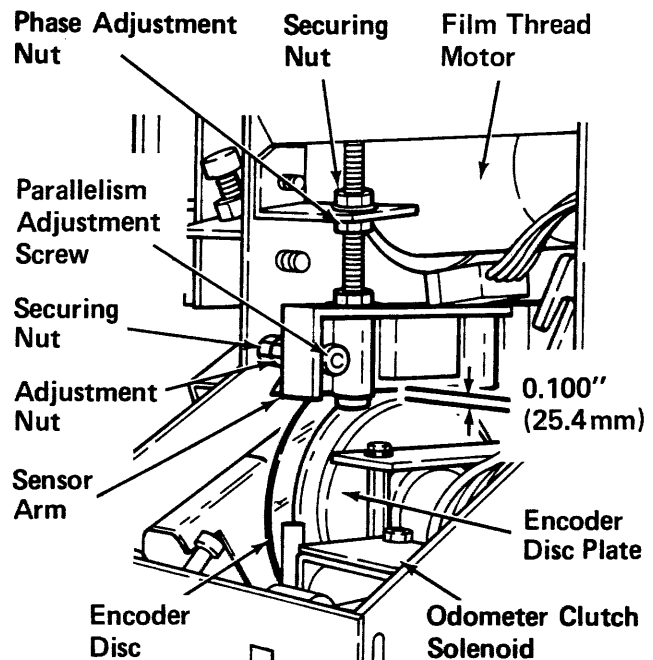
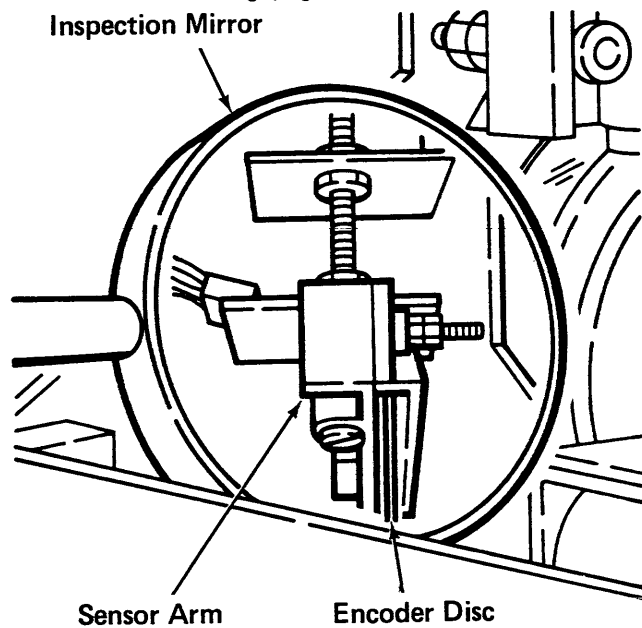
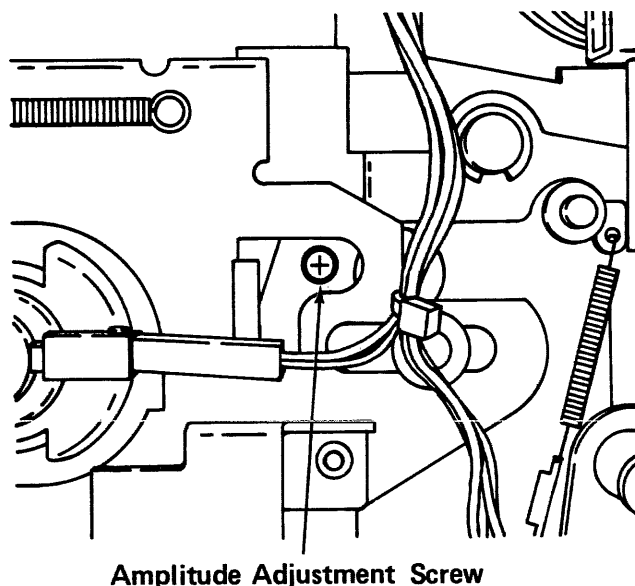
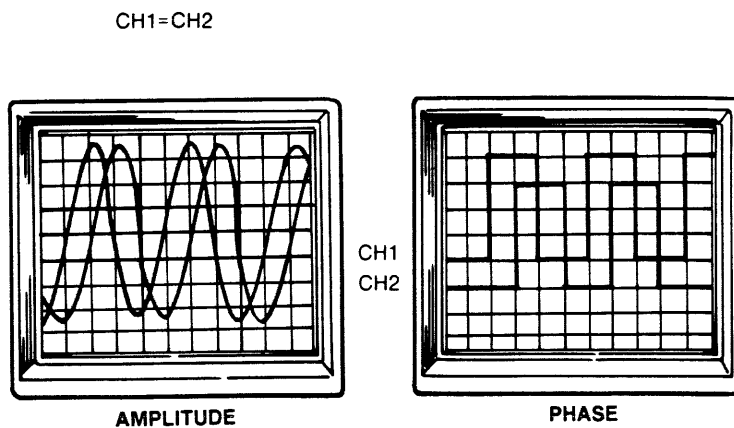

Figure 3-10.6A
Figure 3-10.6B
Figure 3-10.6E
Figure 3-10.6F
does not wobble (Figure 3-10.6A). The Encoder Disk should not touch the odometer sensor.
- Loosen the Securing Nut for the Phase Adjustment Screw (Figure 3-10.6A).
- Loosen the Securing Nut for the Parallelism Adjustment Screw and, while holding the Adjustment Nut, turn the Parallelism Adjustment Screw (Figure 3-10.6A) so that the Encoder Disc is parallel with the Odometer Sensor Slot and as close to the rear as possible without touching (Figure 3-10.6B).
- Press and hold the Reset Button to actuate the Swing Motor (M4) to make the Amplitude Adjustment Screw (Figure 3-10.6E) accessible.
13. While holding the Lock Nut, turn the Amplitude Adjustment Screw, (Figure 3-10.6E) for a greater than 3 Vpp display on the scope (Figure 3-10.6F) and no distortion at top and bottom of sine wave.
4. While holding the Securing Nut, turn the Phase Adjustment Nut (Figure 3-10.6A) for a 90° phase relationship (Figure 3-10.6F).
8. Turn the Film Speed Control fully clockwise. Observe on the scope that the square waves should NEVER be in phase. See Figure 3-10.6F.